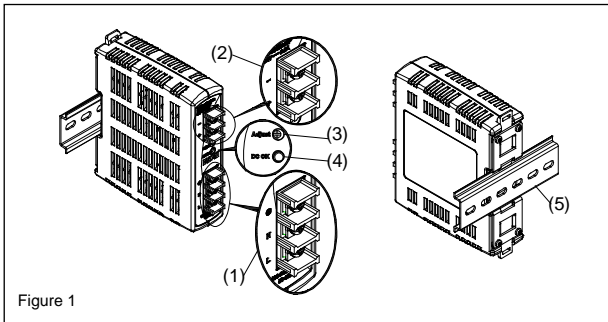
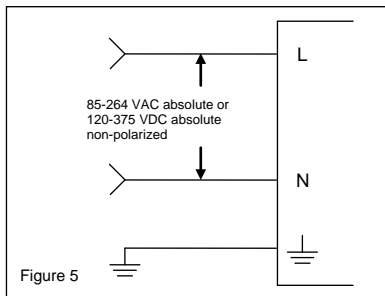

Figure 1
Figure 5
2. Device description (Fig. 1)
5.1. Input connection (Fig. 1, Fig. 5)
Use L, N and PE connections of input terminal connector (see Fig. 1 (1)) to establish the 100-240 VAC connection.
5.2. Output connection (Fig. 1 (2))
Use the "+" and "-" screw connections to establish the 24 VDC connection. The output provides 24 VDC. The output voltage can be adjusted from 22 to 28 VDC on the potentiometer. The green LED DC OK displays correct function of the output (Fig. 1 (4)). The device has a short circuit and overload protection and an overvoltage protection limited to 35 VDC.